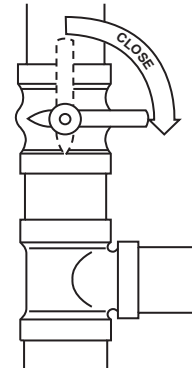

Fig. 17 – Close the External Manual Valve
- Close the external manual gas valve. See Fig. 17.